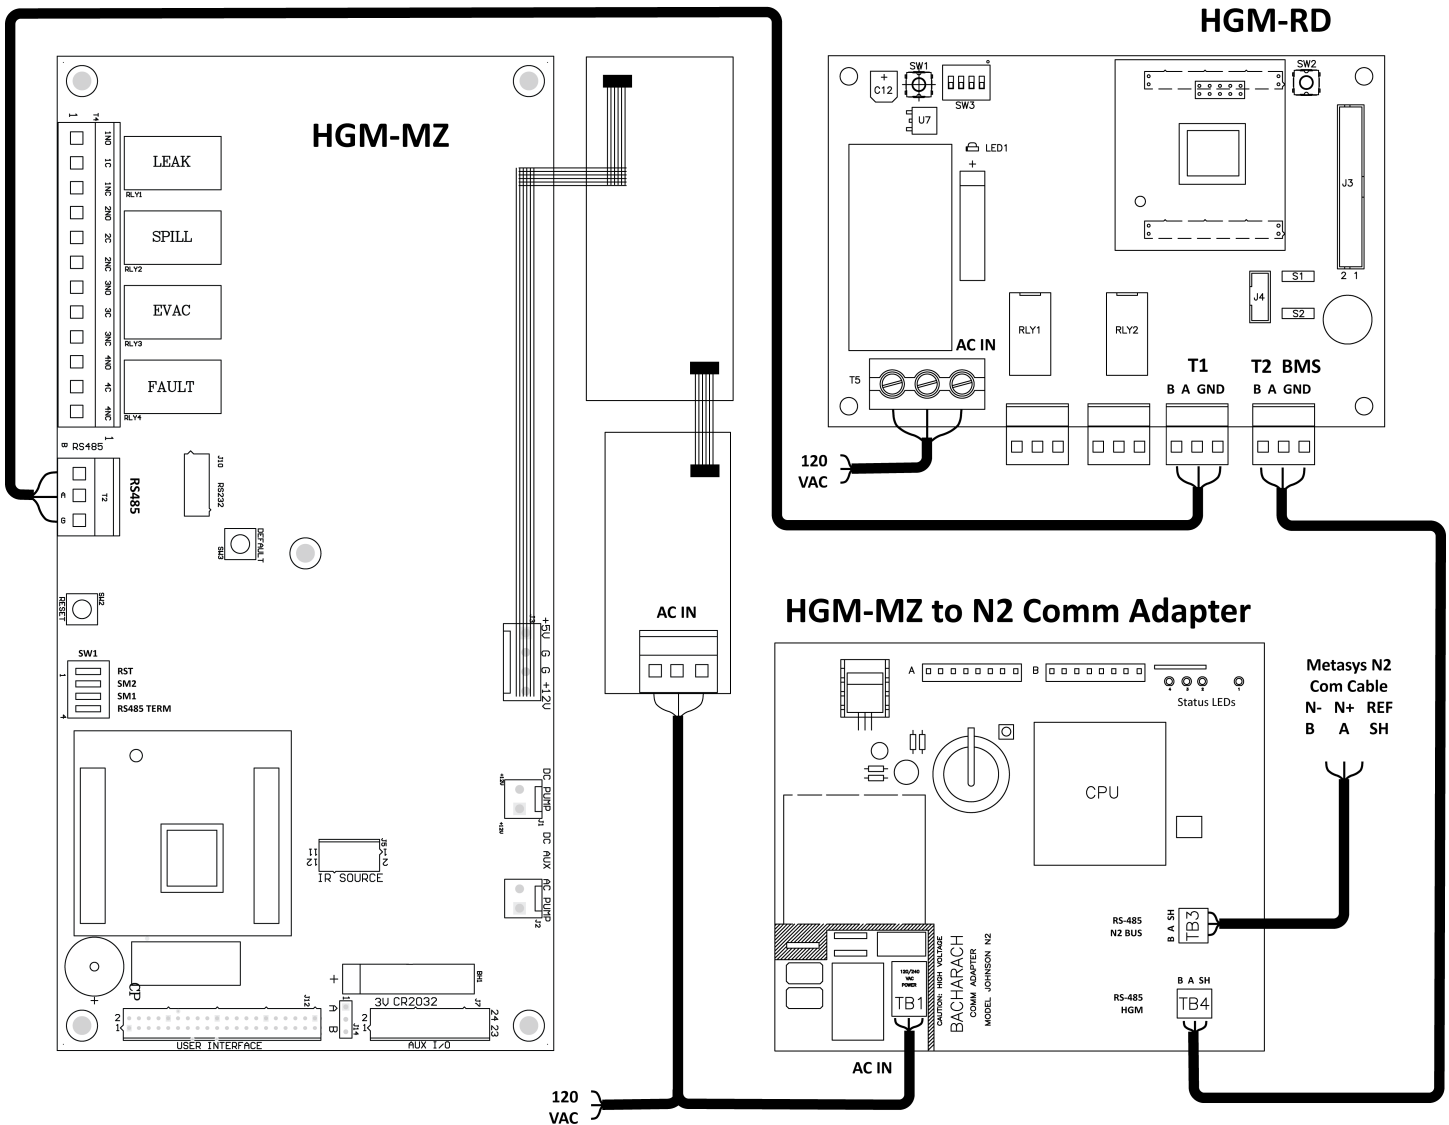

Figure 2 – HGM-MZ to N2 Communications Adapter: Wiring w/Remote Display
4.	If an MZ-RD remote display IS to be used with the adapter, refer to Figure 2 for wiring details. Note that when the MZ-RD is used, TWO RS-485 cables must be run between the HGM-MZ and MZ-RD, so plan accordingly.